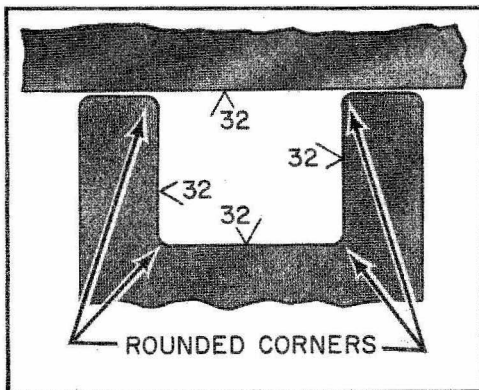
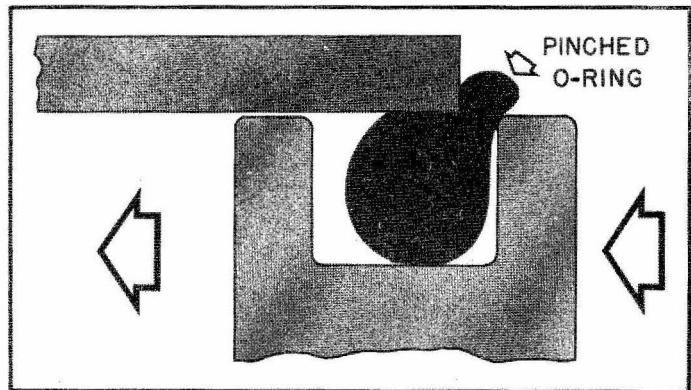

Figure 5-5 Groove Design
Figure 5-6 Pinched O-Ring
b. **O-Ring Grooves.** - The O-ring groove in a pressureproof fitting is rectangular in shape with a groove area approximately 15 percent greater than the cross-section area of the O-ring. The depth of the groove is such that when the surfaces that contain the O-ring are assembled the O-ring is given the required diametral squeeze to effect a watertight seal at low pressure. The outer and inner corners of the groove are rounded to prevent possible cutting of the O-ring and to minimize mechanical stress concentrations (see figure 5-5). The hull fitting hole is chamfered to prevent pinching off some of the O-ring material during assembly (see figures 5-6 and 5-7).